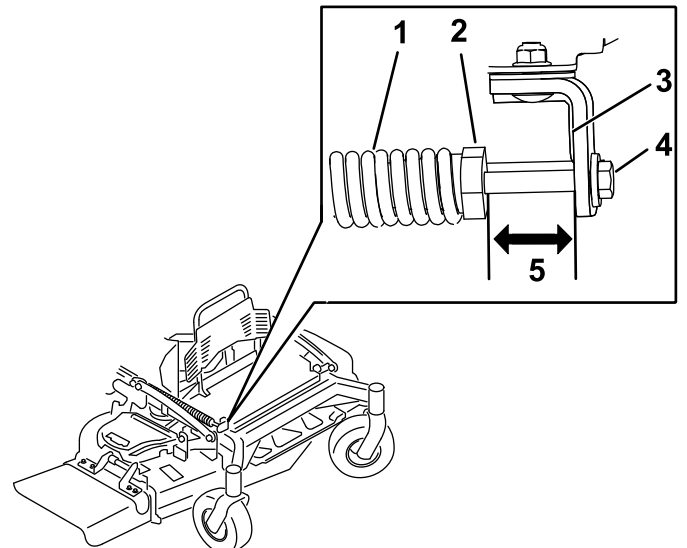

Figure 83
2. Check the distance between the spring nut and the rear side of the welded mount bracket (Figure 83).
3. Ensure that the length is between 64 to 89 mm (2.5 to 3.5 inches) as shown in Figure 83.
4. If needed, adjust the distance by adjusting the bolt on the front of the mount bracket (Figure 83).